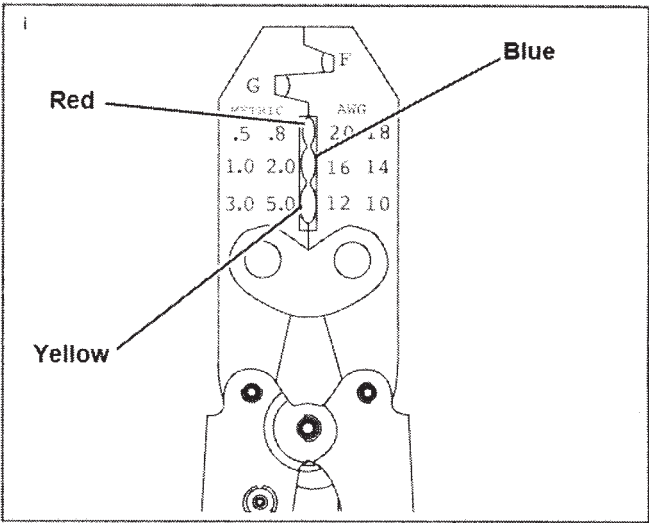

Figure 9. Packard Crimp Tool (HD-38125-8)
3. See Figure 9. Crimp the wires in the connector using the Packard Crimp Tool (8125-8). Be sure to match the color or gauge wire marked on the butt splice connector with the corresponding crimp cavity on the crimp tool.